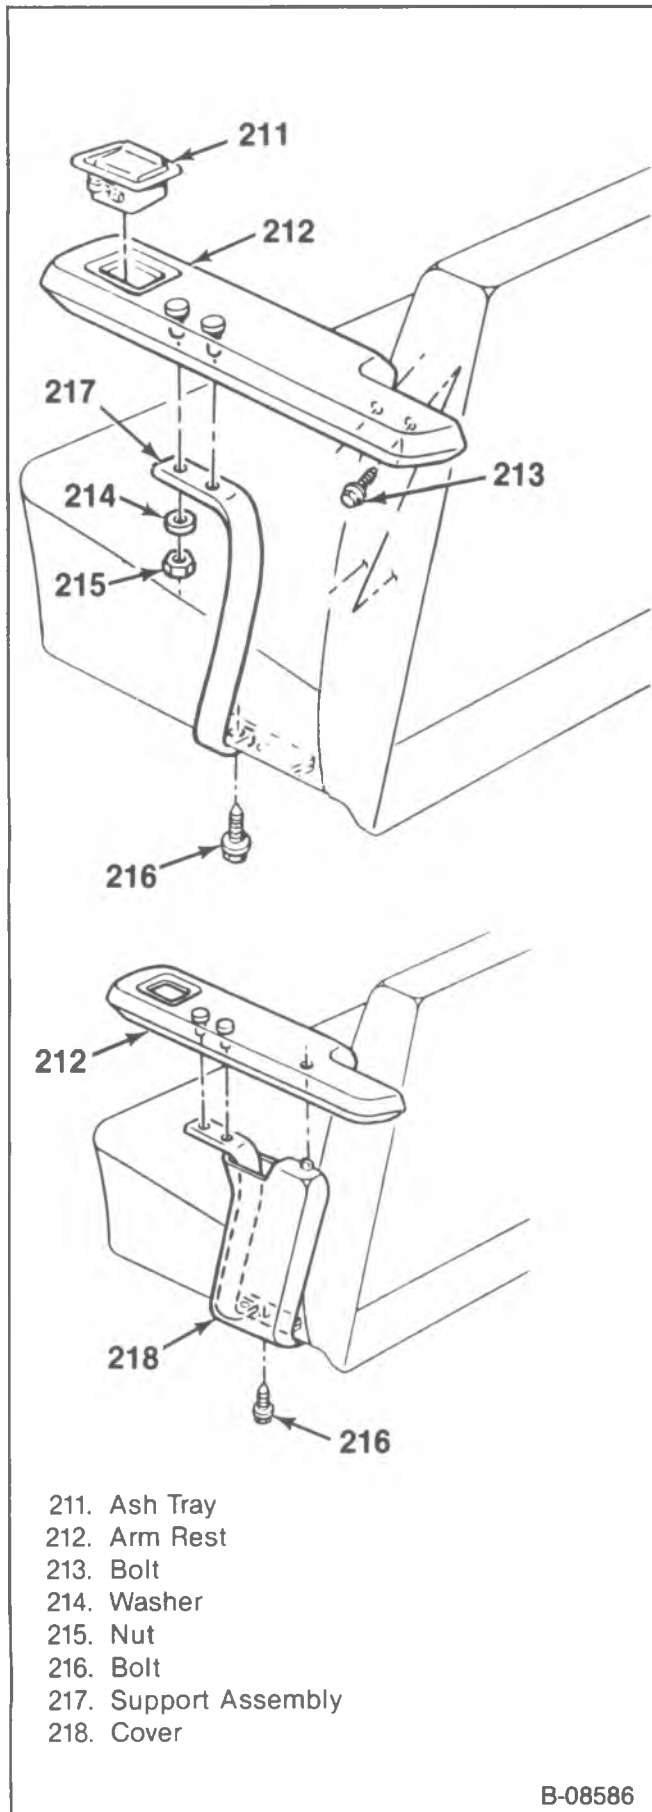

Figure 38—Center Seat Armrest
**Remove or Disconnect (Figures 38 and 39)**
1. Armrest bracket (217) to seat bolts (216).
2. Armrest to seatback bolts (213).
3. Armrest cover (218) (if equipped).
4. Armrest bracket (217) to armrest nuts (215) and washers (214).
5. Armrest bracket (217) from the armrest (212).